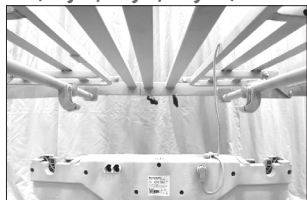

Fig.8
1. Place the actuator below the grid, ensuring that each motor moves the correct section (**Fig.8, Fig.9, Fig.10**)